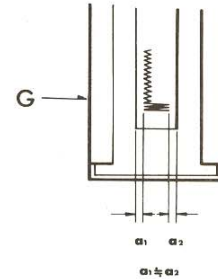

FIGURE 3
- Sew a buttonhole and check to see if bartack is placed in the center of buttonhole foot (Figure 3).